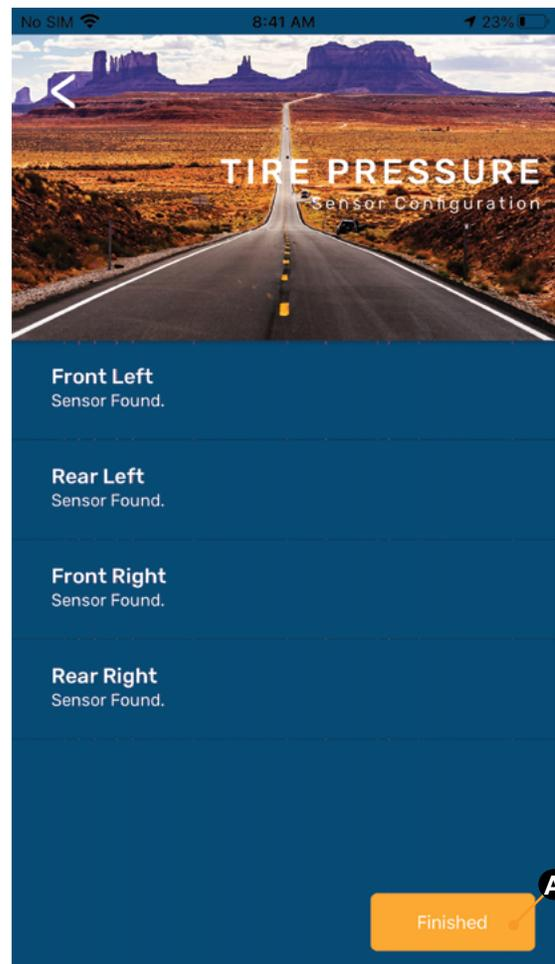

Fig.15
3. Repeat steps 2B–D until all sensors are learned (Fig.15).